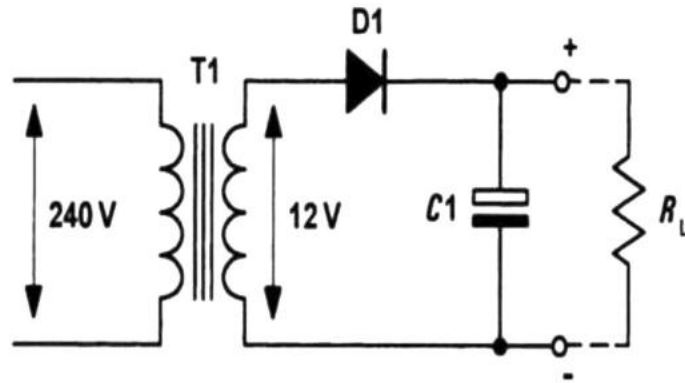

Figure 1.7 A simple half-wave rectifier circuit with reservoir capacitor
- Fig. 1.7 shows a simple half-wave rectifier circuit with reservoir capacitor.